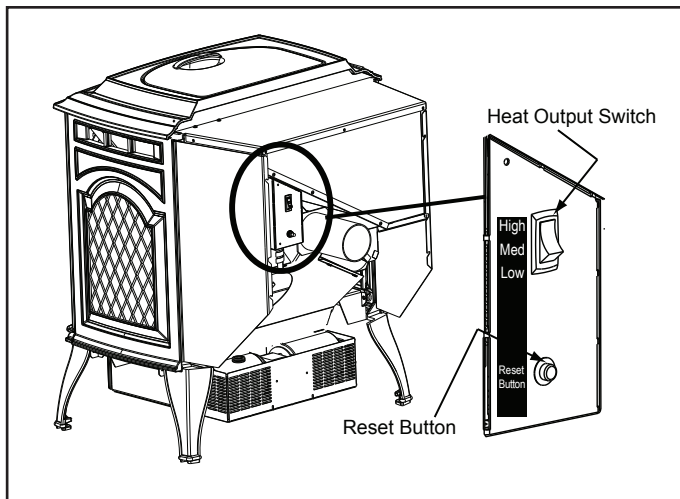
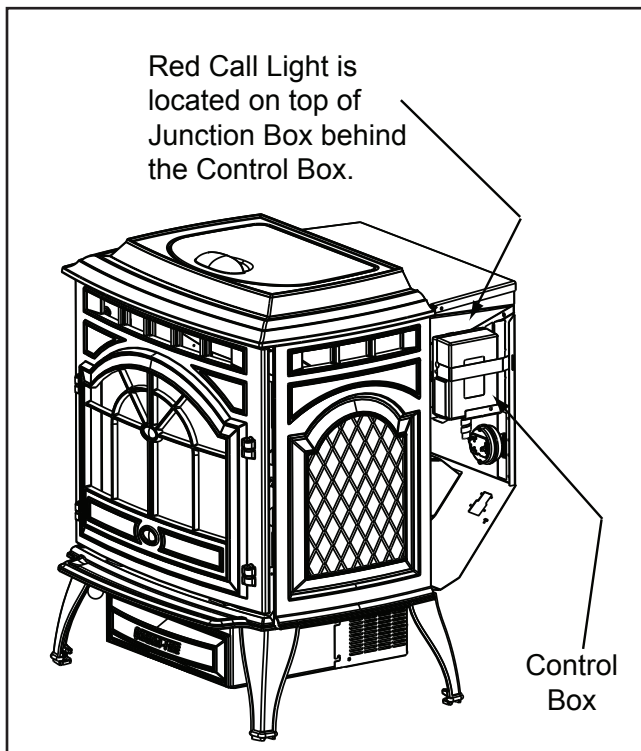

Figure 23.1
Figure 24.1
3. Locate the heat output control switch mounted on the back of the appliance in the upper right corner. **Figure 23.1.** Turn it to the "high" setting by pushing the top of the control switch in and then adjust the thermostat to its highest setting. Remove the right side panel and the red call light located to the left of the control box will be on. **Figure 24.1 on page 24.** This indicates the thermostat is calling for heat.
3. Occasionally the appliance may run out of fuel and shut itself down. When this happens, the red call light will be on. **Figure 24.1**. To restart it, fill the hopper and press the reset button. (See **Figure 23.1**, page 231). When you press the reset button the red call light will go out. Release the button and the light will come back on. You should see a fire shortly. If not, follow the instructions on **page 23**, of "Starting Your First Fire".